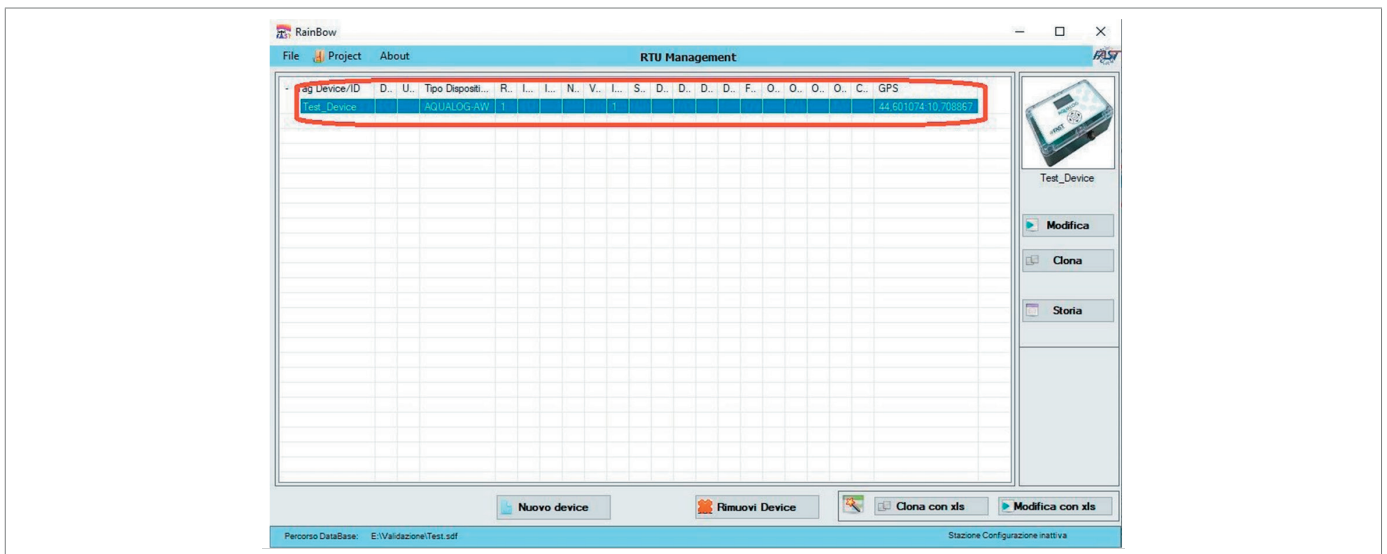

Fig. 8.28. Select RTU
3. Select the desired RTU (Fig. 8.28).